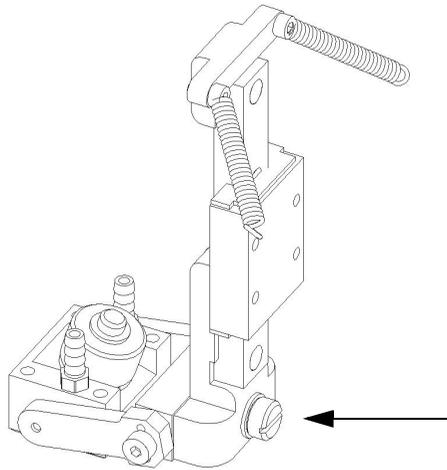

Figure 4-2 The screw that secures the yoke to the SLA
5. Using a flathead screwdriver, loosen the screw at the back of the spring-loaded arm (SLA), just enough to free the yoke from the arm (see Figure 4-2 on page 31).